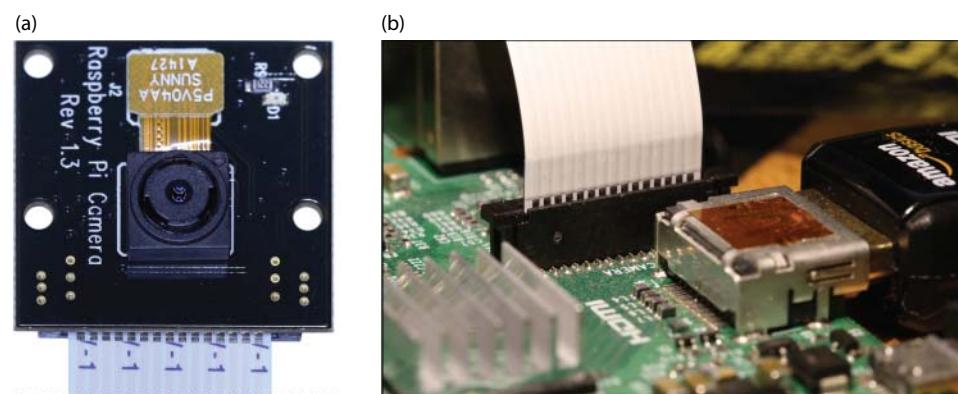

Figure 15-1: (a) The RPi NoIR camera; (b) correct attachment of the ribbon cable to the RPi CSI connector
The RPi camera (\$30), illustrated in Figure 15-1(a), is a small (25mm × 24mm) camera module that is attached to the RPi *camera serial interface* (CSI) connector via a 15cm ribbon cable (15core, 1mm pitch). The CSI connector is on all RPi models, except the RPi Zero. The fixed-focus camera uses an Omnivision 5647 sensor that has still picture resolution of 2592 × 1944 pixels (5MP) and supports full HD video recording (1920 × 1080) at various frame rates (including 640 × 480 at 90FPS!). The camera is also available with and without an infrared filter; the latter is called the NoIR model, and it is useful for night-vision applications (with the use of active IR illumination), but daylight image colors are badly affected. The RPi NoIR is currently produced on a black PCB, whereas the regular model is produced on a green PCB.
The camera is attached to the RPi as illustrated in Figure 15-1(b) using the following steps:
- Push the plastic housing clip down. The cable should appear as in Figure 15-1(b).